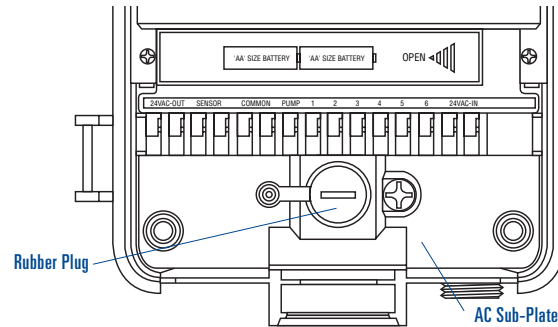

Figure A2: AC Sub-Plate
- Remove the “Rubber Weather Plug” from “AC Sub-Plate”. [See Figure A2]